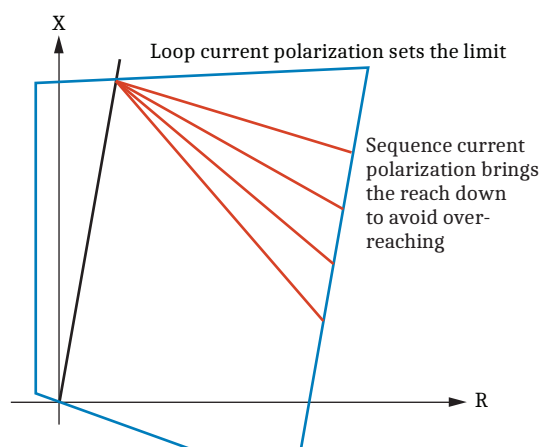

Figure 19 Enhanced Reactance Polarization (Zone 1 and Zone 2 if Used in the PILOT Scheme)
- The quadrilateral characteristic uses additional polarization with the sequence current to avoid overreaching on resistive faults with heavy line load. The ground element uses the sequence current (the sum of the negative- and zero-sequence currents) to obtain the second reactance line in addition to the reactance line obtained through polarizing with the loop current. The sequence-current-polarized line tilts up and down to reduce the infeed and outfeed effects. The Zone 1 quadrilateral logic uses an AND combination of the loop-polarized and sequence-current-polarized reactance conditions to prevent overreaching. The resulting characteristic tilts down when needed to avoid overreaching, but for security, it will not tilt up beyond the static loop current-polarized reactance line (see Figure 19). The relay applies this enhanced reactance polarization to both the phase and ground distance elements of Zone 1 and to Zone 2 if used in the PILOT logic.